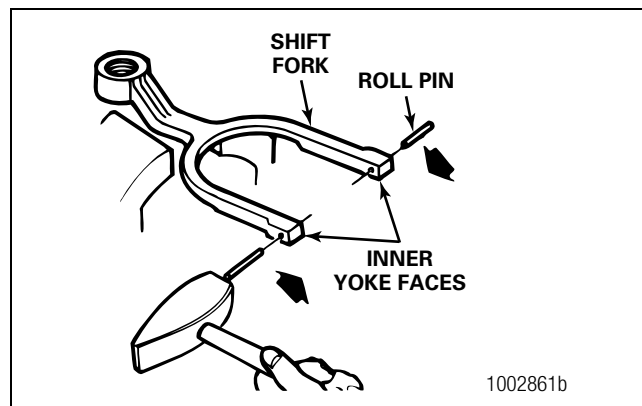

Figure 6.26
- On carrier models with shift fork roll pins, install the two roll pins into the ends of the shift fork. Tap the pins into position until they are level with the inner yoke face. Figure 6.26. Do not install completely at this time.